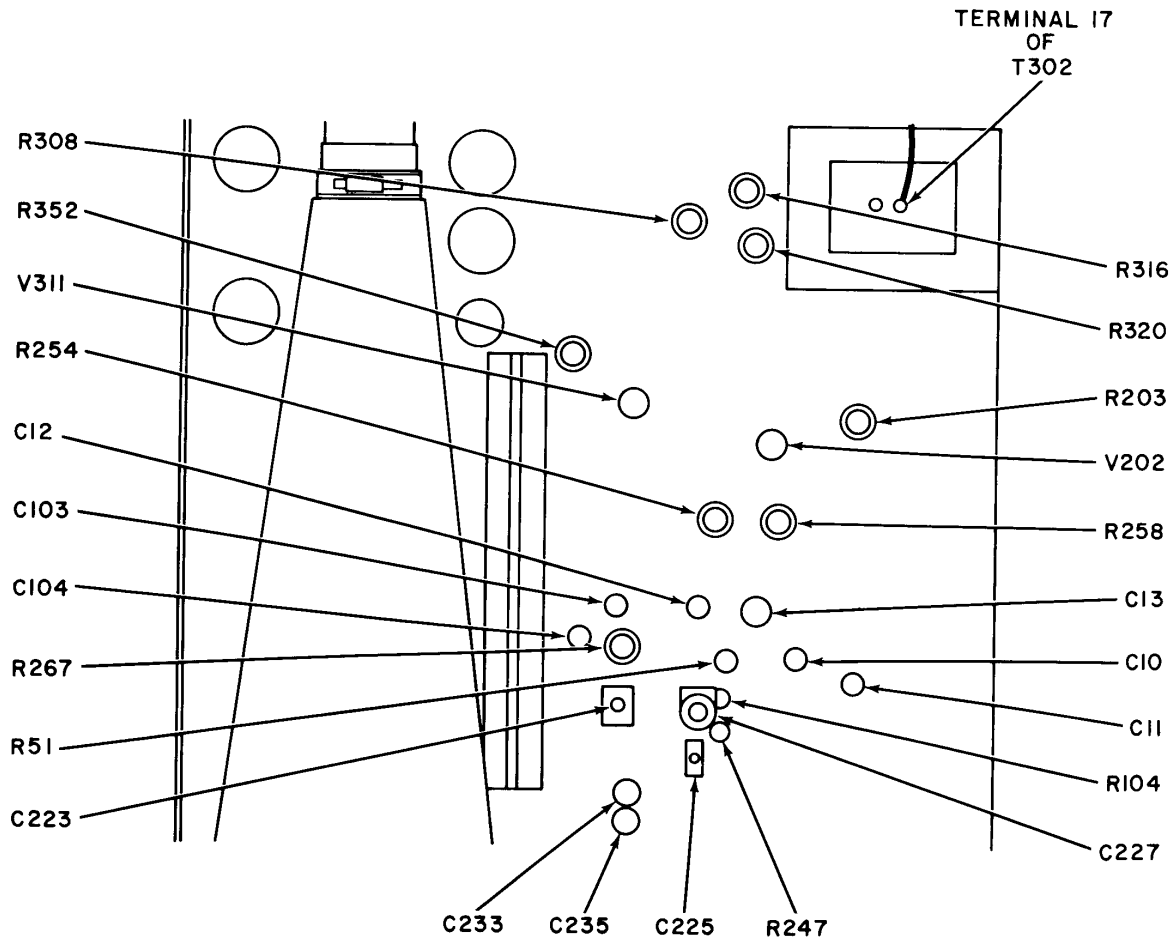

Figure 4. Oscilloscope - top view.
- (1) Position TI controls as listed in (a) through (c) below:
- (2) Adjust R316 (fig. 4) for a small round spot.
- (3) Adjust R320 (fig. 4) until spot disappears.
- (1) Adjust test oscillator amplitude output to 0.53 volt rms.
- (2) Adjust R203 (fig. 4) until triggering becomes stable.
- (3) Position TI controls as listed in (a) through (d) below:
- (4) Connect ac/dc voltmeter (A1) between pin 2 of V202 (fig. 4) and chassis ground.
- (5) Adjust R258 (fig. 4) clockwise until sweep free-runs and then counterclockwise until sweep trace just disappears. Record ac/dc voltmeter indication.
- (6) Adjust R258 (fig. 4) for indication of 3 volts more positive than the value recorded in (5) above.
(1) Adjust voltage calibrator for a 353.5 millivolt rms output.
(2) Adjust CAL control for a 10-centimeter display amplitude on TI crt.
(3) Adjust voltage calibrator output for a 353.5-millivolt rms output.
(4) Adjust R104 (fig. 4) for a 10-centimeter horizontal display amplitude on TI crt.
b. Adjustments. Adjust R51 (fig. 4) for display amplitude of 6 centimeters on TI crt.
- (6) Adjust C12 (R) and C13 (R) (fig. 4) for best square-wave pattern on TI crt.
- (7) Adjust C10 (R) and C11 (R) (fig. 4) for best square wave on TI crt.